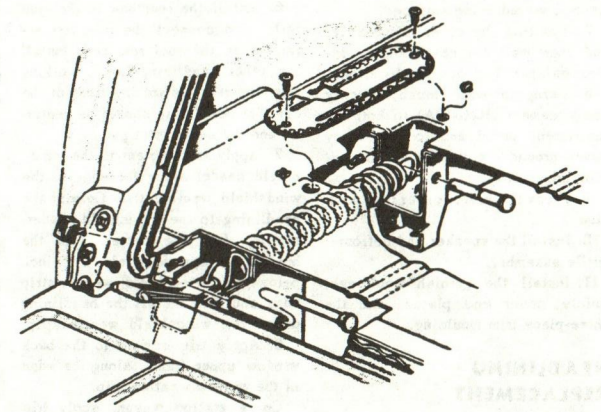

Fig. 5 - Tailgate Counterbalance Spring
1. Remove the spring access cover (Fig. 5).
tion, insert a 12-inch screwdriver through the hooked end of the spring and into the hole provided in the member, and unhook the spring from the retaining pin (Fig. 5).